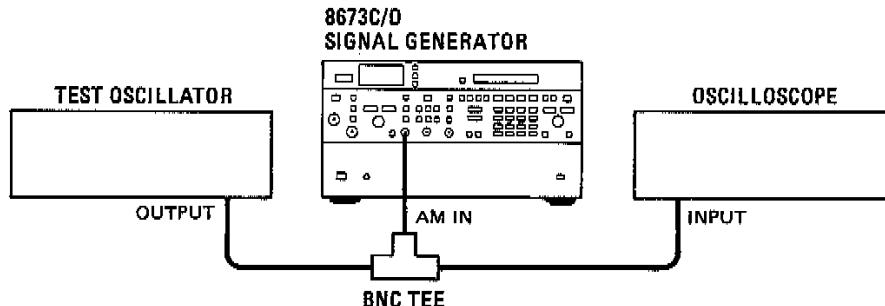

Figure 3-8. AM Functional Check Setup
33. Set the test oscillator to 10 kHz at a minimum output level or 0V. Then, connect the test oscillator and oscilloscope to the Signal Generator as shown in Figure 3-8.